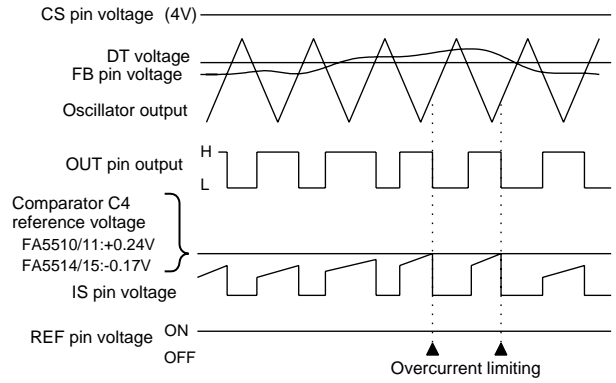
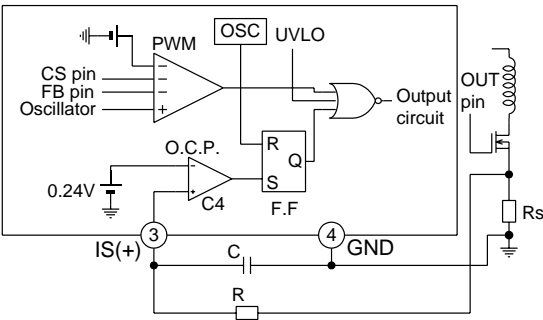
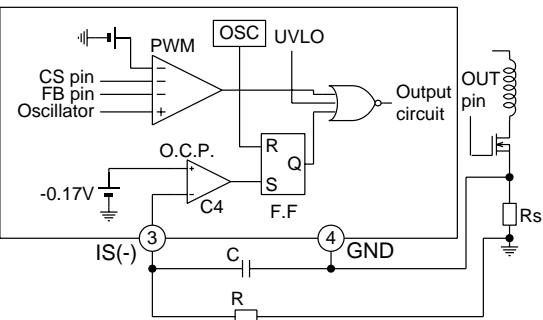

Fig. 15 Overcurrent timing chart
Fig. 13 Overcurrent limiting circuit (FA5510/11)
Fig. 14 Overcurrent limiting circuit (FA5514/15)
The overcurrent limiting circuit detects the peak value of every drain current pulse (pulse by pulse method) of the main switching MOSFET to limit the overcurrent. The detection threshold voltage is +0.24V for FA5510/11 or -0.17V for FA5514/15 with respect to the ground as shown in Figure 13 and Figure 14. The drain current of the MOSFET is converted to voltage by resistor R_s and fed to the IS pin of the IC. If the voltage exceeds the reference voltage +0.24V (FA5510/11) or -0.17V (FA5514/15) of comparator C4, comparator C4 works to set flip-flop output Q to high. The output is immediately turned off to shut off the current. Flip-flop output Q is reset on the next cycle to turn on the output again. This operation is repeated to limit the overcurrent.
If the overcurrent limiting circuit malfunctions due to noise, place an RC filter between the IS pin and MOSFET as shown in Figure 13 and Figure 14. (See item 12 in "Design advice.") Figure 15 is a timing chart that illustrates overcurrent-limiting operations.